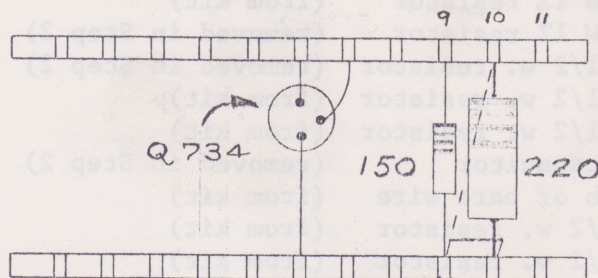

FIG. 2
NOTE: If your instrument does not have the strap shown in dotted lines between the 150  $\Omega$  and 220  $\Omega$  resistors, as indicated in Fig. 2, disregard Steps 26 through 28.
- ( ) 26. Remove the 220  $\Omega$ , 2 w. resistor (R744) from notch 10 of the ceramic strips (see Fig. 2, on page 6).
- ( ) 27. Remove the end of the strap (shown in dotted lines) from notch 10 of the upper strip, trim it and resolder to notch 10 of the lower strip (see Fig. 2).